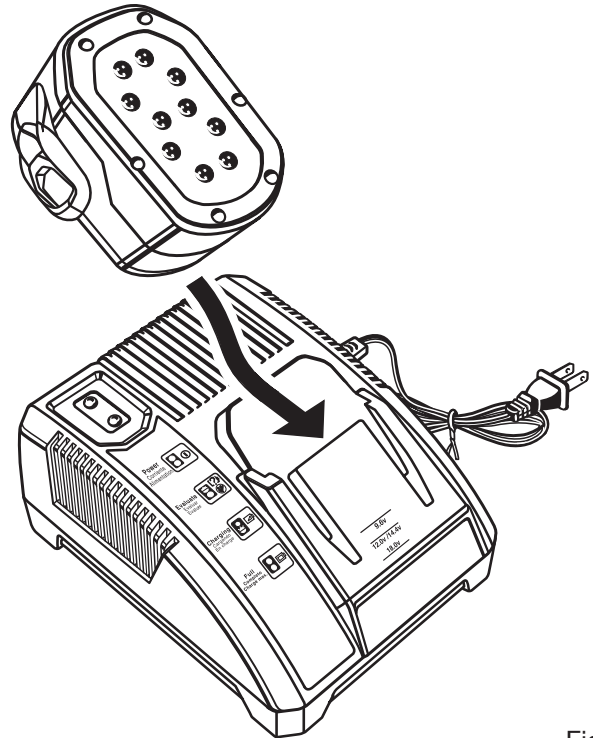

Fig. 2
- Attach battery pack to charger by aligning raised ribs on battery pack with grooves in charger, then slide battery pack onto charger. See Figure 2.